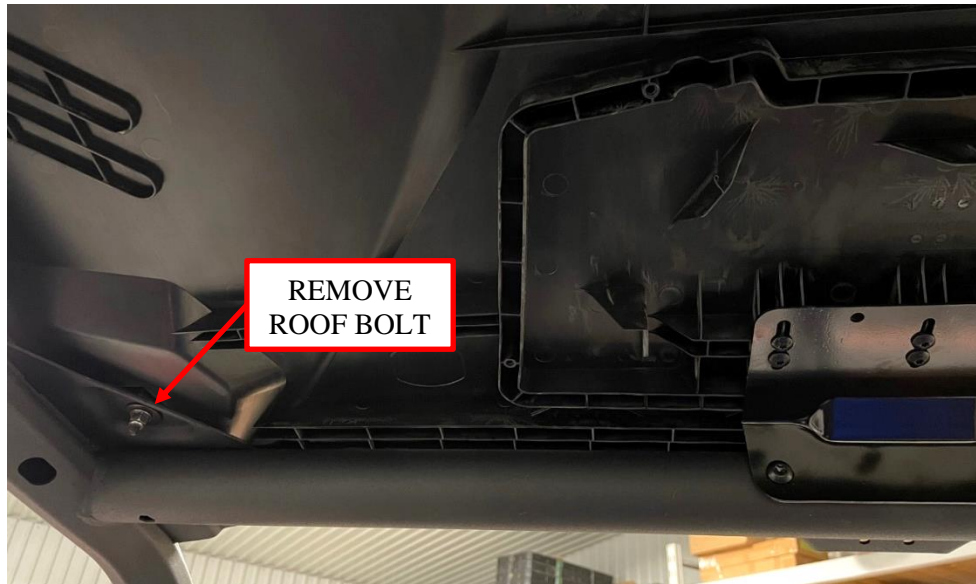

Figure 2: Remove the roof mounting bolts from corners. Driver side shown. (Passenger side similar)
1. If you have a roof installed, remove the two front mounting bolts from the corners of the roof. The *Audio Mini* brackets will mount on the cage mounts in the following steps. See Figure 2. **Note: The factory washers and roof spacers will be reused with new hardware.** If you do not have a roof, proceed to step 2.